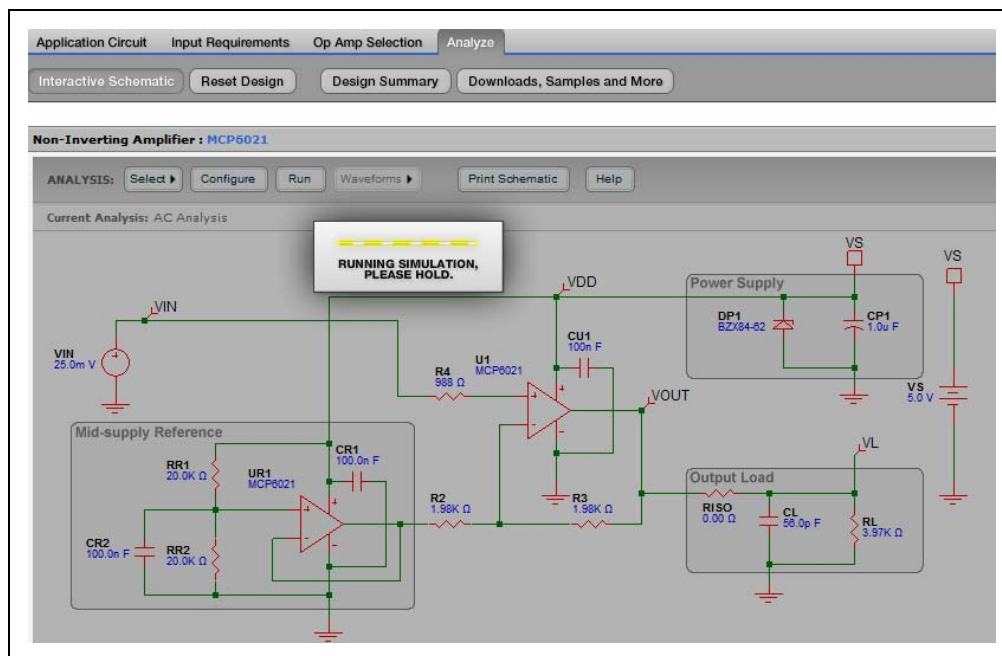
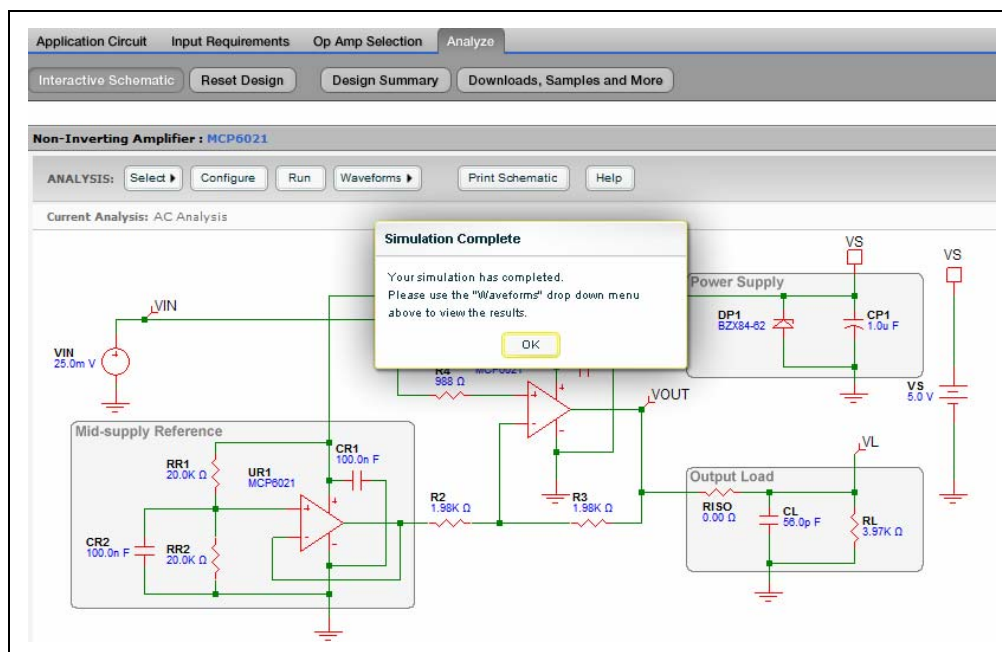

FIGURE 5-9: Run Simulation.
FIGURE 5-10: Simulation Complete.
2. Click the **OK** button to view the waveforms. (See Figure 5-9 and Figure 5-10).